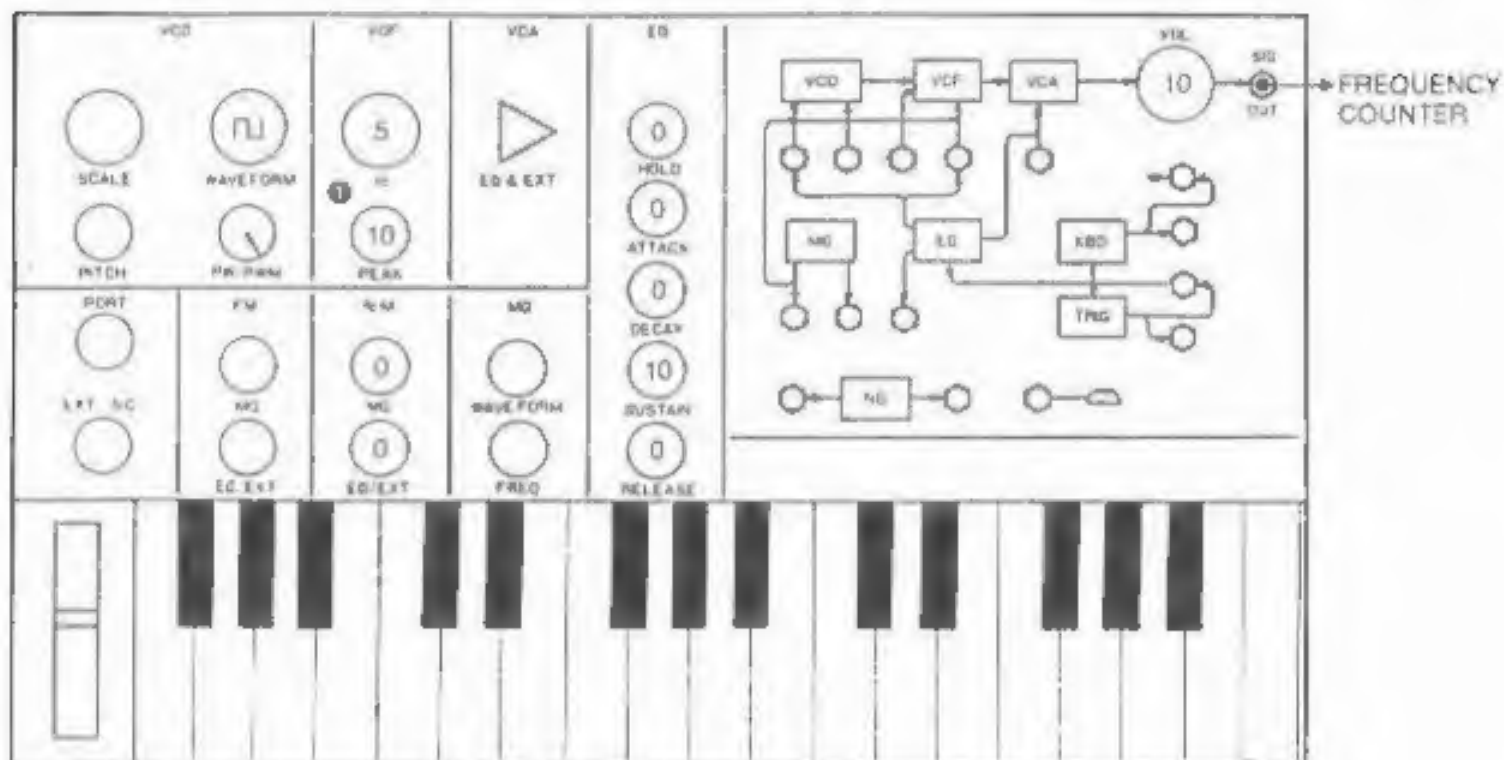

Fig. 2
Refer to the settings shown in figure 2. Set the Fc knob at "5", and the LPF PEAK knob at "10". Then adjust the ① semi-fixed screw as necessary so that the LPF oscillation frequency is 500Hz.